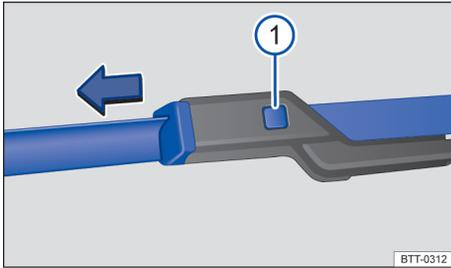

Fig. 154 Replacing windscreen wiper blades.
- Press and hold the release tab → Fig. 154 ⓘ and pull off the windscreen wiper blade in the direction of the arrow.